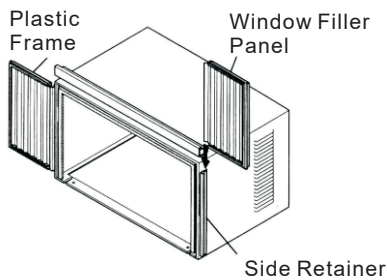
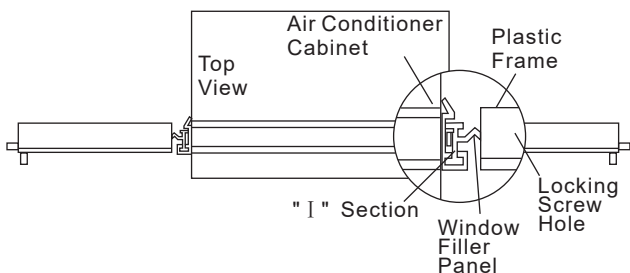

Fig.9
Fig.10
- Slide "I" section of window filler panel into side retainer on the side of the cabinet (see Fig.9 & Fig.10). Do both sides.